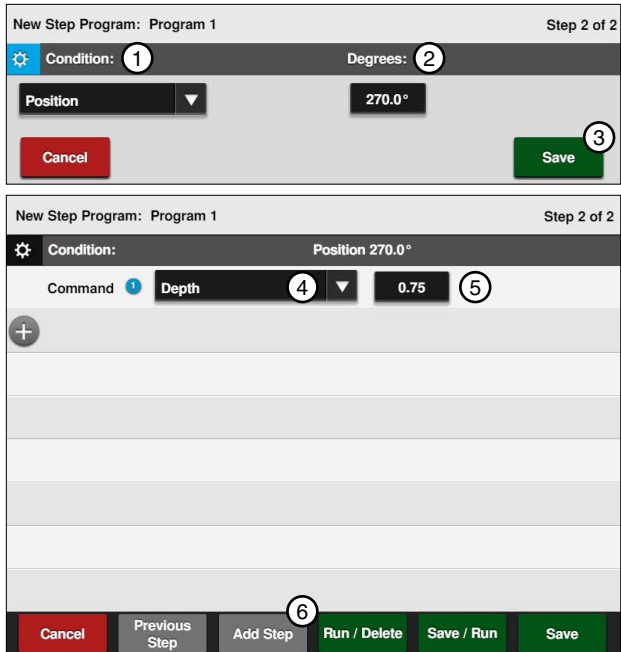

Figure 130-1 1. Position Condition 2. Degrees 3. Save 4. Depth Command 5. Inches 6. Add Step
6. Program the position condition for this step. Refer to Figure 130-1.
7. Enter the command to be executed at this position. Refer to Figure 130-1.